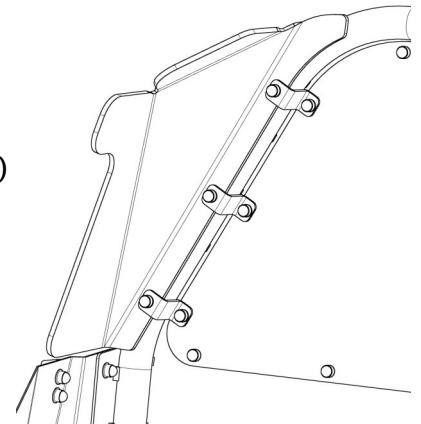
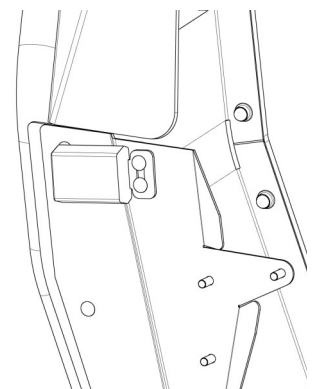

Figure 10
Figure 11
1. Locate the P1300 Partition Wing, the (3) Wing Brackets [3WIN000000], (6) 1/4"-20X3/4" carriage bolts [3X61], and (6) 1/4"-20 small whiz nuts [3X16SZ].
2. Put the long flange of the Wing Brackets against the front face of the Wing and install (3) of the carriage bolts from the wing side with (3) corresponding whiz nuts against the brackets. Tighten down the nuts to pull the carriage bolts into the wing and then loosen the nuts so that the brackets are able to move.
3. Place the short flange of the Wing Brackets against the Partition window and align the holes in the brackets with the (3) missing fasteners in the window. Insert the (3) remaining carriage bolts from the back side of the partition and loosely secure the Wing in place with whiz nuts against the Wing Brackets. The Wing will be adjusted and tightened in a later section. Figure 10 shows the installed wing.
4. Locate the OSB Park Buckle [3OSB000001 or 3OSB109RP-1 for retractable belts], (2) 1/4"-20X5/8" carriage bolts [3X36], and (2) 1/4"-20 whiz nuts [3X16Z].
5. Position the Park Buckle in the desired location on the Partition Mounting Plate and mark (2) hole locations.
6. Drill the locations marked in the previous step with a 9/32" drill bit and then install the Park Buckle with a 7/16" socket and the prepared hardware. Figure 11 shows the recommended location for the Park Buckle.